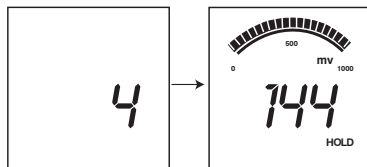

Fig. 1
4. After the reading is made press the MODE/HOLD button to store the current reading. The HOLD icon will be displayed. The storage location number will also be displayed followed by the reading being stored. [Fig. 1]